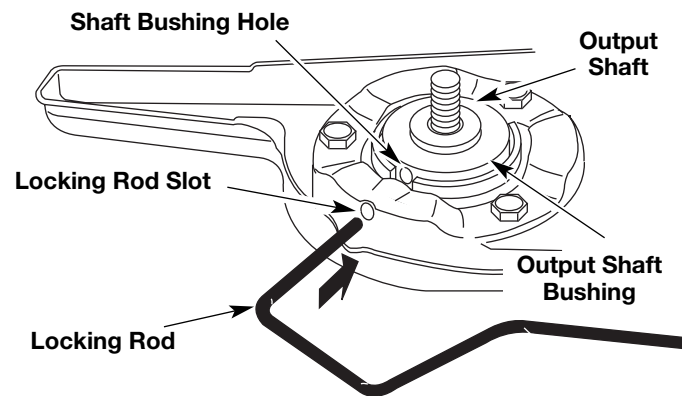
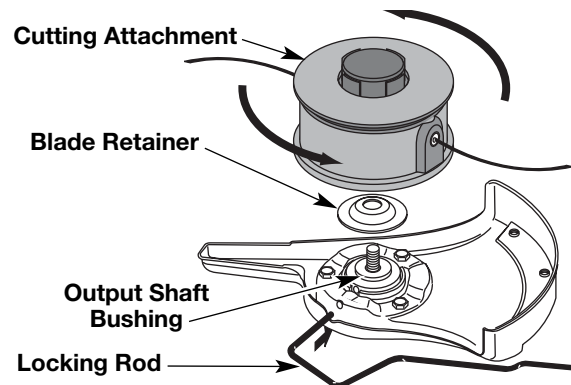

Fig. 7
Fig. 14
1. Align the shaft bushing hole with the locking rod slot and insert the locking rod into the shaft bushing hole (Fig. 7).
- Align the shaft bushing hole with the locking rod slot and insert the locking rod into the bushing hole (Fig. 7).
- Align the shaft bushing hole with the locking rod slot and insert the locking rod into the shaft bushing hole (Fig. 7). Place the blade retainer on the output shaft with the flat surface against the output shaft bushing as shown in Fig. 14. Screw the cutting attachment counterclockwise onto the output shaft. Tighten securely.